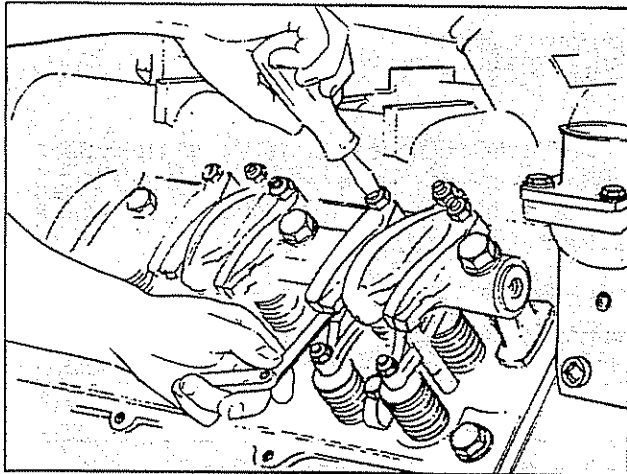

Fig. 2-34, (OM1040L). Adjusting valves
1. Loosen the locknut and back off the adjusting screw. Insert a feeler gauge between the rocker lever and the top of the crosshead. Valve clearances are shown in Table 2-10. Turn the screw down until the lever just touches the gauge and lock the adjusting screw in this position with the locknut. Fig. 2-34. Torque the locknut to the values indicated in Table 2-8; note Step 2 under "Injector Plunger Adjustment".